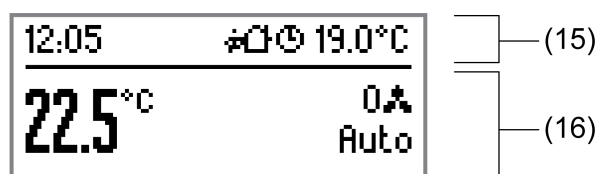

Figure 56: Example of a basic display with two display areas
The device's graphics display has 103 x 40 pixels and is equipped with switchable LED backlighting. The display is subdivided into various display areas, depending on the configuration in the ETS, the operating state and the specific device functions that are activated. A general distinction can be made between 1-area and 2-area display. With two display areas (Figure 56), the upper area of the normal display (15), also called the status line, shows symbols that indicate various operating modes of the room temperature controller or the controller extension. Moreover it is optionally possible to display in the status line the time (left justified) and additional temperature values of the controller extension (right-justified).